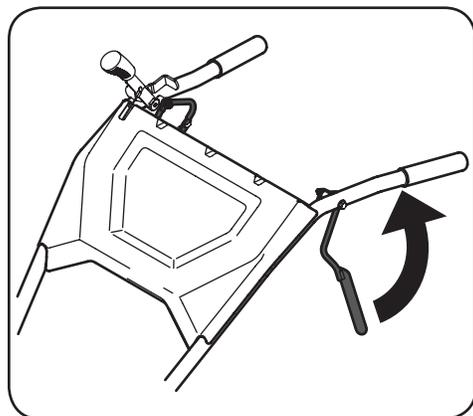

Figure 4-3
- a. Pull the bail up and hold it against the handlebars. See Figure 4-3.